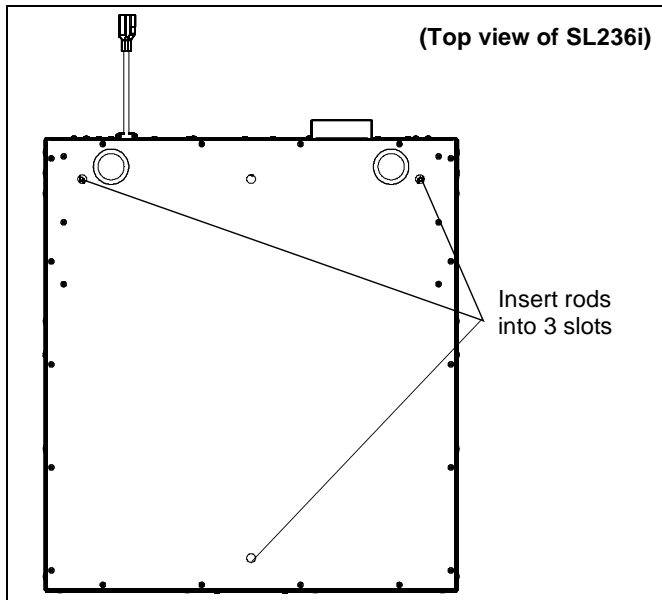

Figure 6
5. Place SL236SPi onto threaded rods, inserting the rods into the three slots on top of the SL236SPi housing. (See Figure 6)